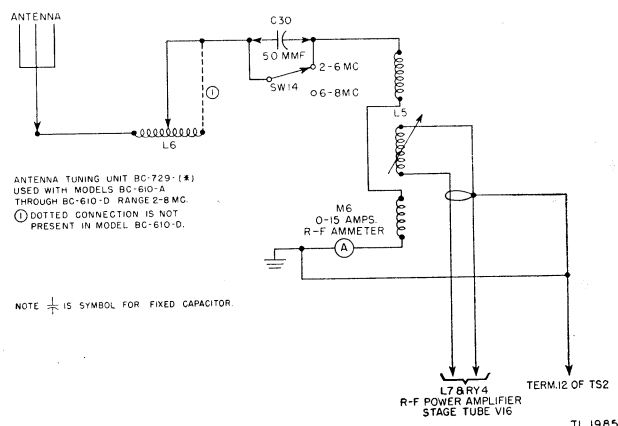

Figure 40. Antenna Tuning Unit BC-729-(*), schematic wiring diagram.
36. Antenna Tuning Unit BC-729-() (fig. 40)